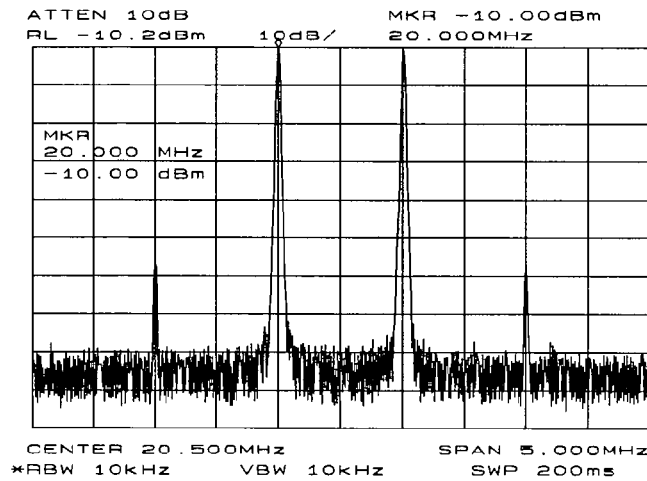

Figure 3-9. Signal Peak Set to Reference Level
- For greatest measurement accuracy, position the peaks of the source signals at the reference level. The spectrum analyzer function **MARKER -> REF LVL** allows you to set the reference level using a marker. First, place a marker on the source signal of highest amplitude by pressing **PEAK SEARCH**. Then set the reference level to this value by pressing **MKR ->**, and then **MARKER -> REF LVL**. Figure 3-9 illustrates the resulting display.